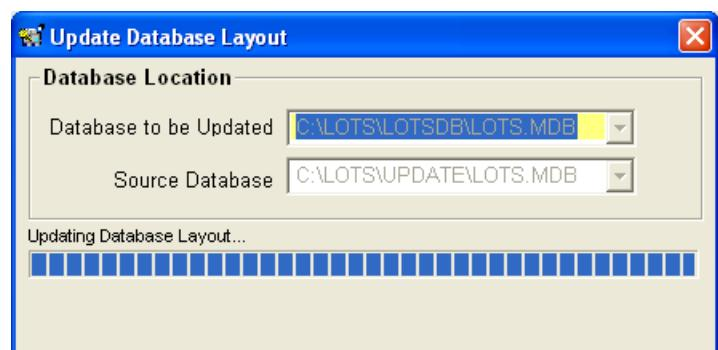

Figure 425
11. The install will then proceed to update the 'Database Layout' (see Figure 425).